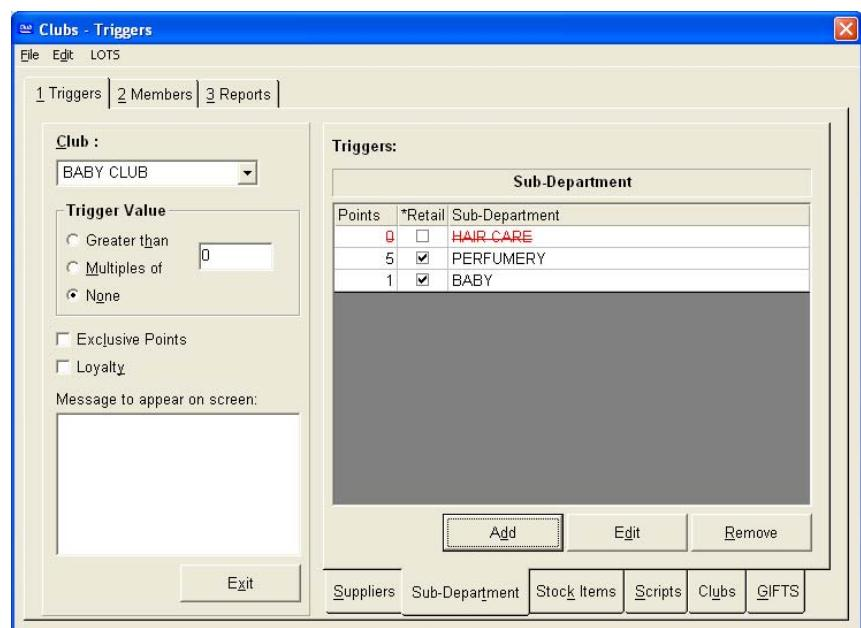

Figure 372
13. The excluded sub-department will be shown in red strikethrough text (see Figure 372).